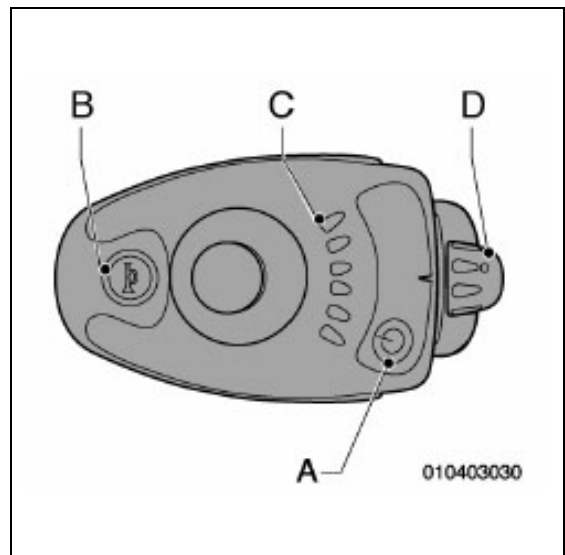

Figure 3.7
- With the rotary knob (D in fig. 3.7) for controller 'Shark'.